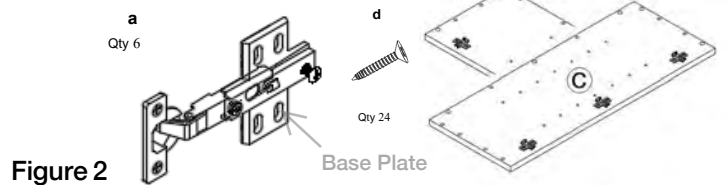

Figure 2
2.Install Hinge base plates (a) onto side panel into designated holes using screws (d). (Figure 2)